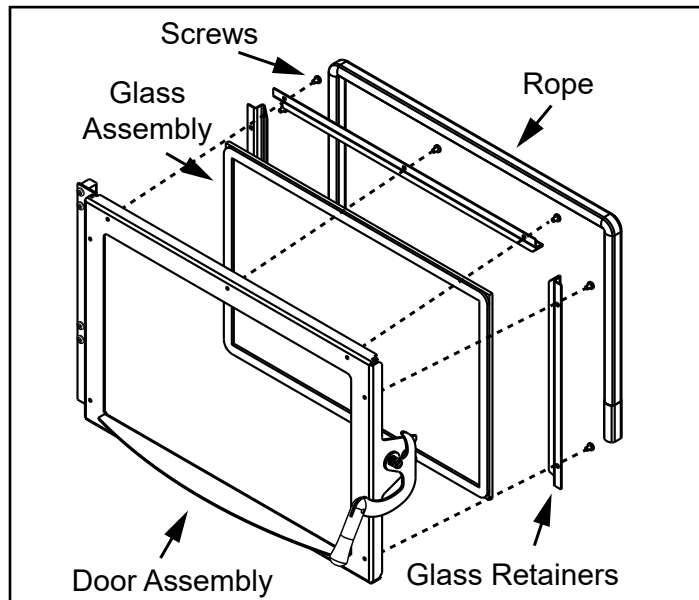

Figure 28.2
9. Add rope into crevice as shown below in **Figure 28.2**.